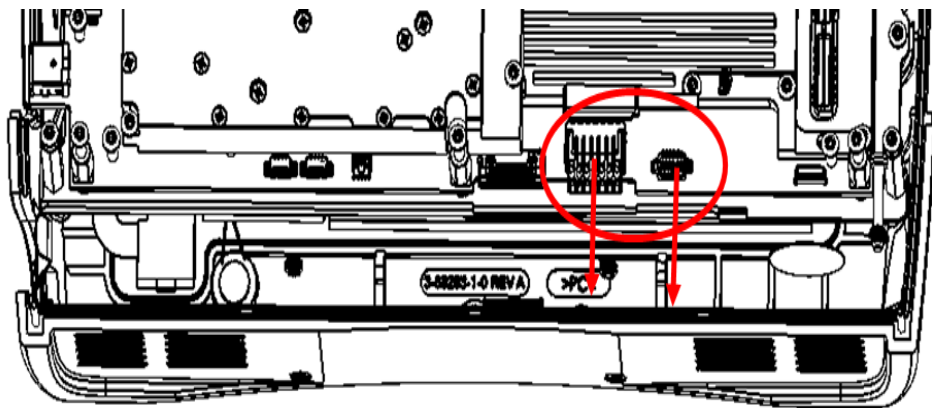

**Figure 5-3.** Removing Fan and Battery Cables
5. After the assembly is removed, disconnect both the battery and fan cable by pulling the connectors towards the bottom of the unit as shown in Figure 5-3.